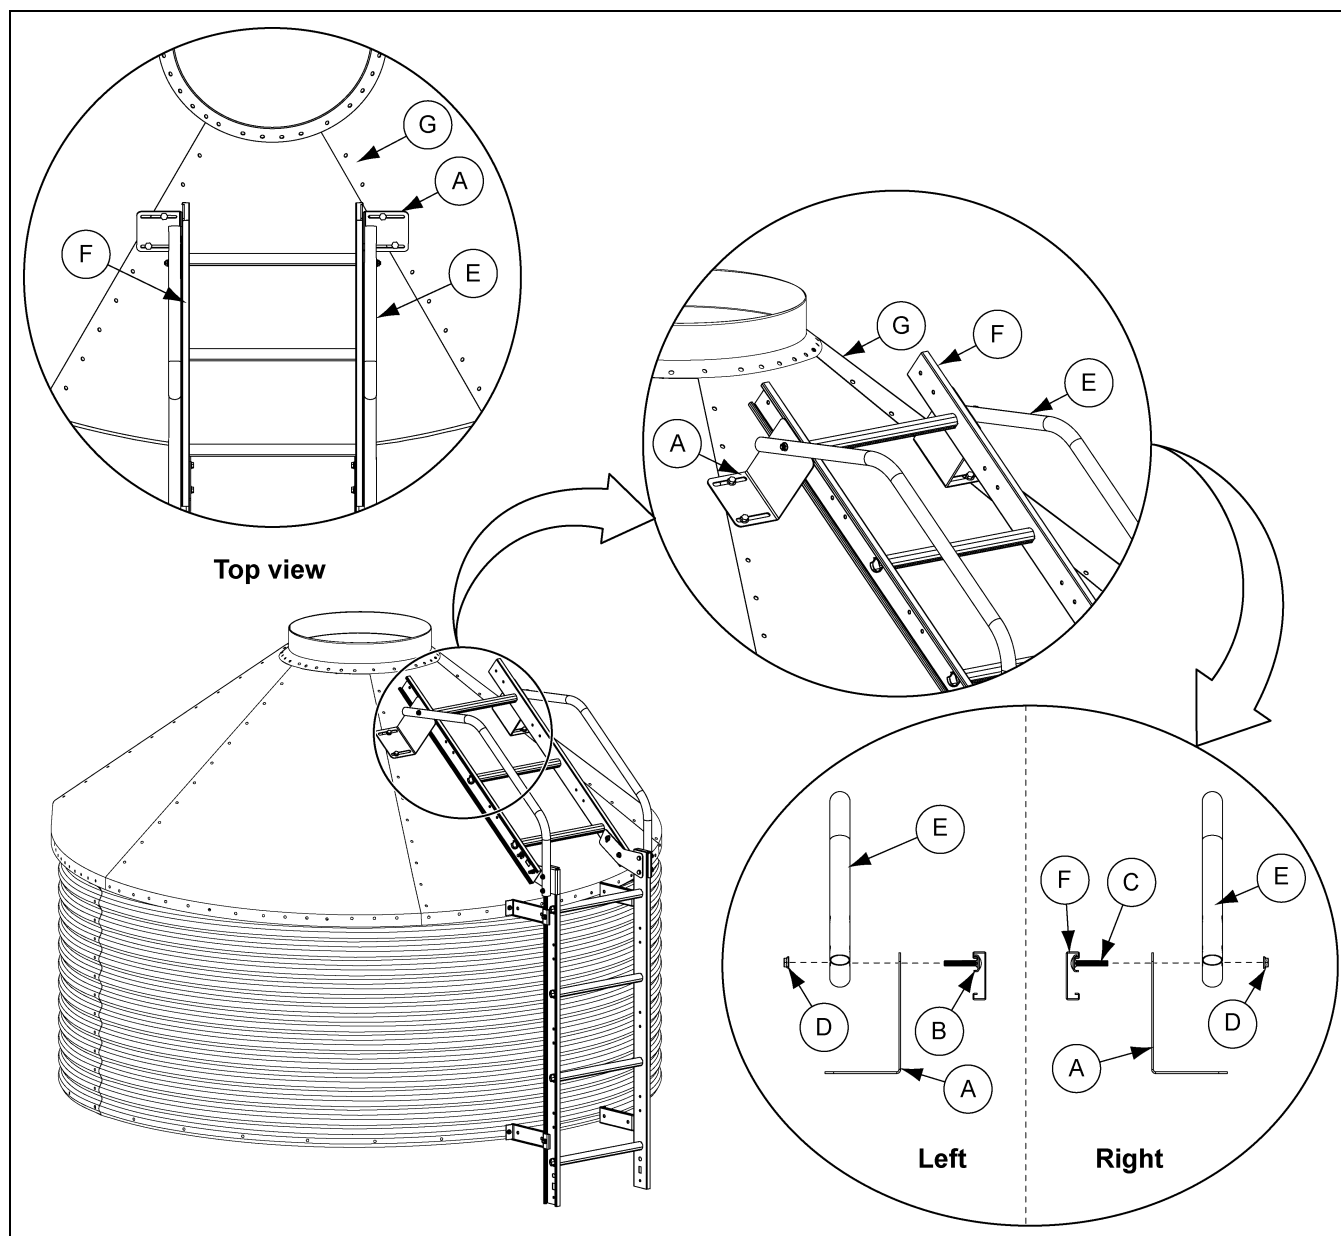

Figure 8D 6'-40°, 7'-30° and 7'-40° Roofs
3. **6'-40°, 7'-30° and 7'-40° Roofs:** The support brackets (A) are bend out away from the center of the roof ladder (F). *(See Figure 8D on Page 31.)*
4. Slide the wedge (B) and the support brackets (A) along the roof ladder rail (F) until the slots in the support brackets (A) match with the pre-punched holes in the roof panel (G) and attach using the existing roof panel bolts.
5. Secure the roof ladder rail (F), support brackets (A), wedge (B) and the handrail (E) using 5/16" bolts (C) and 5/16" flange nuts (D).